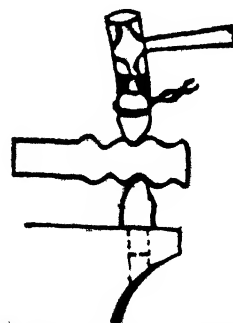

Fig. 9.12. Drawing down.
**Drawing down** is the process of increasing the length of a bar at the expense of its cross-sectional area. It is illustrated in Fig. 9.12. **Setting down** is a localised drawing down or swaging operation. "Punching" is the process of removing a slug of metal, generally cylindrical, by using a hot punch over the pritchel hole of the anvil, over a hole of correct size in the swage block.